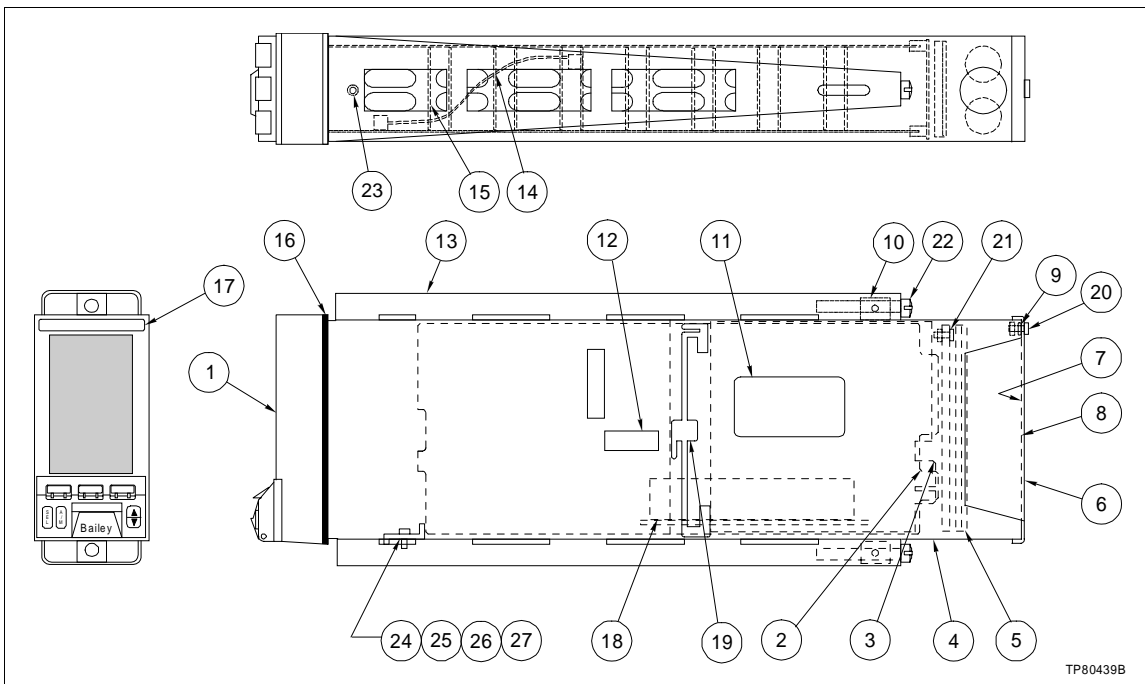

Figure 8-4. Parts Drawing
Bailey Controls Company is ready to assist in the use and repair of its products at any time. Requests should be made to the nearest sales or service office. Table 8-1 is the parts list for Figure 8-4.
Table 8-1. Parts List (Figure 8-4)
Table 8-1. Parts List (Figure 8-4) (continued)
1. Refer to Figure 8-4 for item no.
2. Faceplate assembly part of item 1 assembly.
3. CJC part of item 5 assembly.
4. Fuses located on power supply board (item 3).
5. Fuse located on main board (item 2).